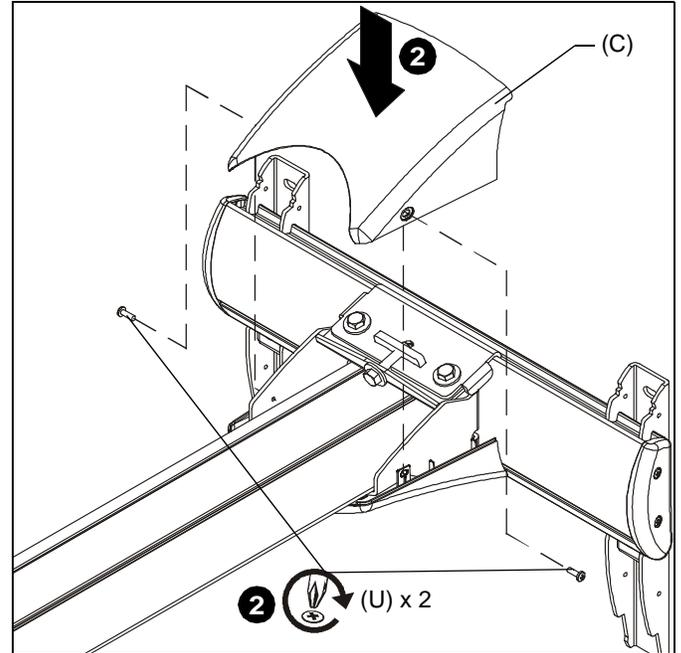

Figure 15
2. Lower the upper cover (C) onto the wall mount and fasten through upper cover (C), lower cover (D) and into wall mount with two 8-32 x 1/2" Phillips pan head screws (U). (See Figure 15)